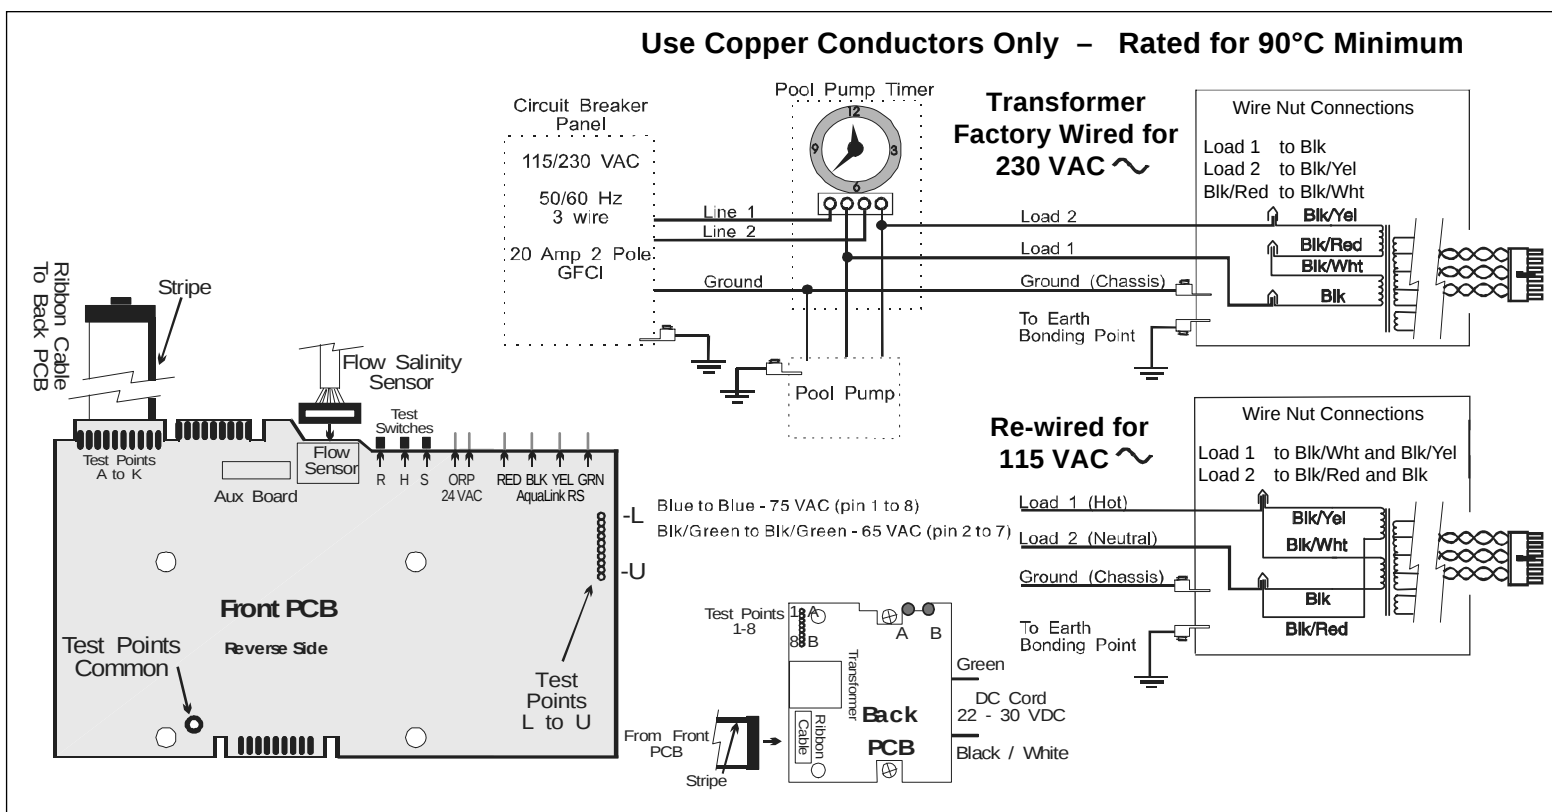

Figure 2. APURE700 and APURE1400
Factory wired for 230 VAC service. If available electrical service is 115 VAC, the power supply wiring must be changed to operate on 115 VAC as shown in the wiring diagram below. (Figure 2.)
6. Check source voltage. (All units are factory wired for 230 VAC). ***In order to use on 115 VAC, the internal factory wiring of the control center must be changed. (See wiring diagram page 6 Figure 2).***
7. Use #12/3 insulated wire and conduit. Wire control center transformer to pool pump power source. The control center should be connected to the pump motor switch or automatic timer (Pool Pump Timer) as shown in the diagram on page 6 Figure 2. ***The flow portion of the Flow/Temp/Salinity Sensor is a backup device only.*** Attach the third wire (**Ground**) from the electrical panel to the ground point inside the Control Center. ***Earth bonding in Section 3.4 must also be accomplished to insure personal safety and safety of equipment.***
9. Feed the connector end of the Flow/Temp/Salinity Sensor cable through the DC cord strain relief fitting located in the bottom of the control center chassis backplate. **Be certain the connector is clean and dry**, then plug the cable into the connector on the control center Printed Circuit Board as shown on page 6 Figure 2. **(Do not pull Flow/Temp/Salinity Sensor cable too tight, allow a little slack).**
11. Connect the DC cord to the Control Center. Feed the DC cord through the same strain relief fitting as the Flow/Temp/Salinity Sensor. Plug the DC cord into the two push-on connectors located on the control center Printed Circuit Board as shown in Figure 2 on page 6.
14. Plug the ribbon cable attached to the front cover PC board into Printed Circuit Board mounted on the backplate (See page 6 Figure 2). Now reattach the control center front cover to the backplate.